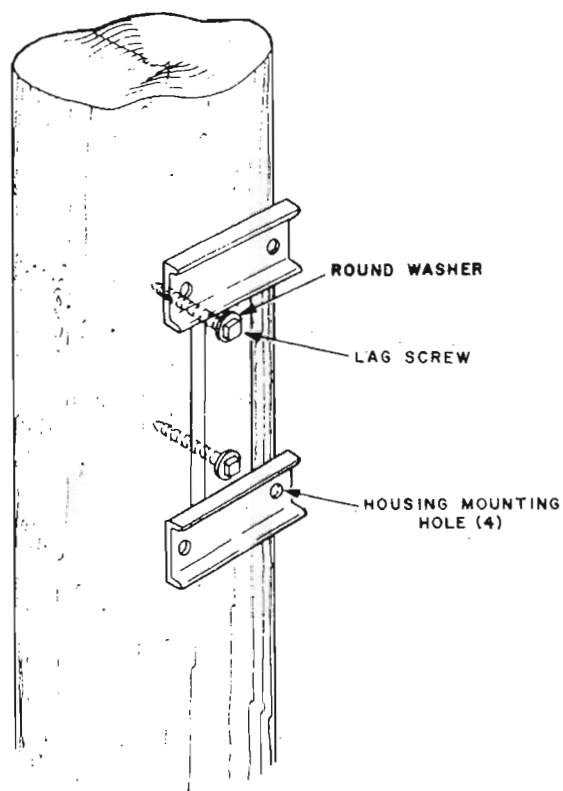

Figure 6a. Lag Screw and Washer Mounting Method for Wood Pole.
3.05 A mounting bracket (D-731743-A) and four 1/4-20 by 5/8-inch screws are furnished to mount the telephone on an irregular surface, such as a pole. The bracket can be attached to a wood pole by either of the two methods shown in Figure 6. One method (Figure 6a) is to use 1/27 by 4-inch-long lag screws and 1-3/8-inch round washers (not furnished). The other method (Figure 6b) is to use 5/8-inch crossarm bolts, square washers, and nuts (not furnished). Attachment of the mounting bracket to a light standard or other metal pole should be made with three iron straps (GP-2500, list 160) secured by nuts and bolts as shown in Figure 7 and note 3 of Figure 3).